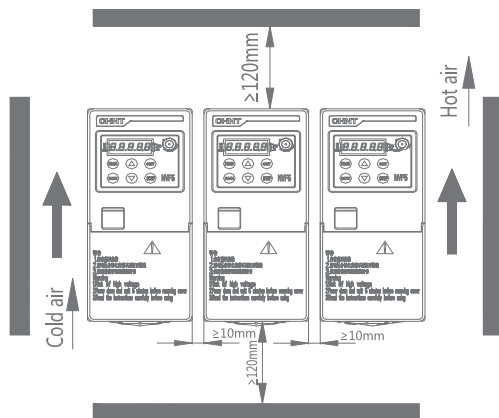

Figure 3-1 Inverter installation diagram
- Pay attention to the installation interval and distance when using the inverter. See Figure 3-1 and 3-2 for parallel and vertical installation of multiple inverters respectively.